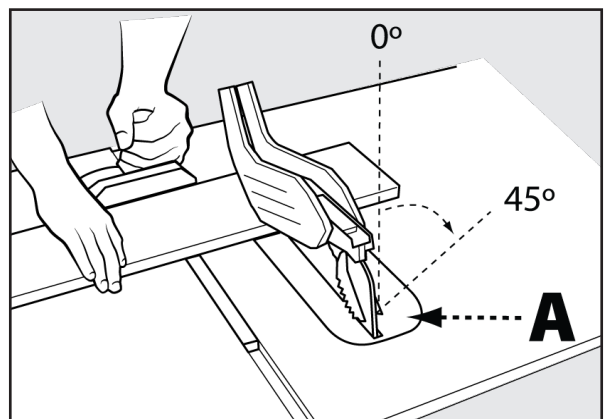

FIGURE 18
Bevel crosscutting is the same as crosscutting except the bevel angle (A) is set to an angle other than 0°. When making a bevel crosscut, place the miter gauge in the right miter slot so that the blade is tilted away from the gauge and hands. See Figure 18.